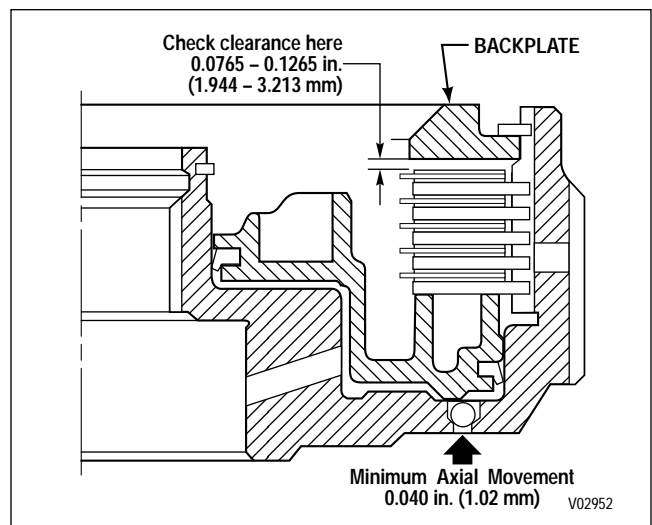

Figure 6-45. Fourth Clutch Clearance Check Point
(6) Refer to Paragraph 4-5p and Figure 6-45 for housing check ball specifications. Remove the ball from the fourth clutch housing only if replacement is necessary. If necessary, clear the bore of the staked metal and remove the ball.
If the J 23619-01 gauge is not available, measure the clearance between the backplate and the first clutch plate (Figure 6-45).